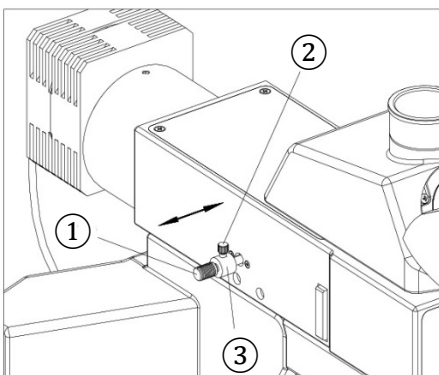

Fig. 22
**Adjusting the Oblique Illumination (Fig. 22)